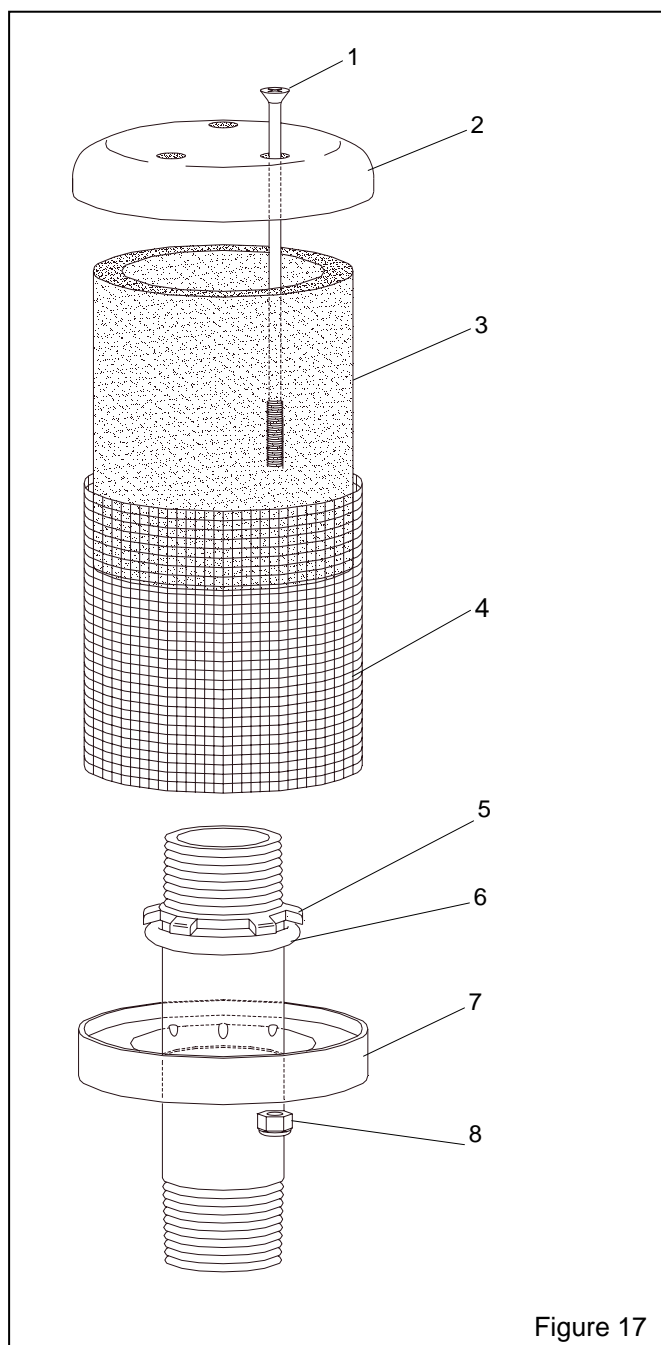

Figure 17
7.12 Exhaust Muffler, Figure 17